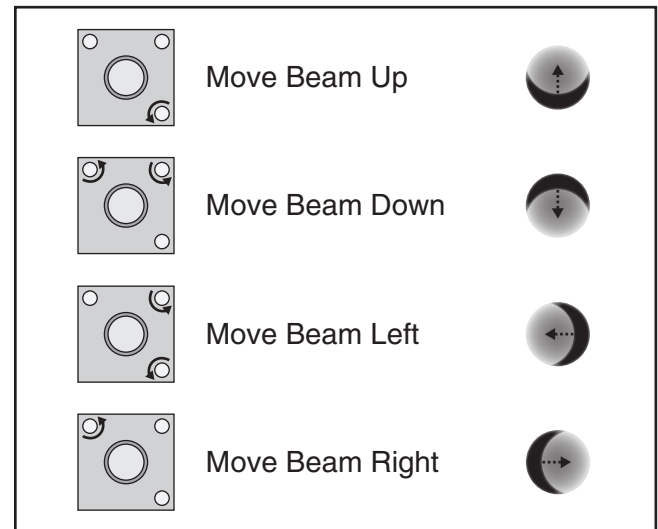

Figure 132. Mirror thumbscrew adjustment.
- 23.** Adjust direction of beam path by tightening thumbscrews depending on desired direction of beam travel (see **Figure 132**).